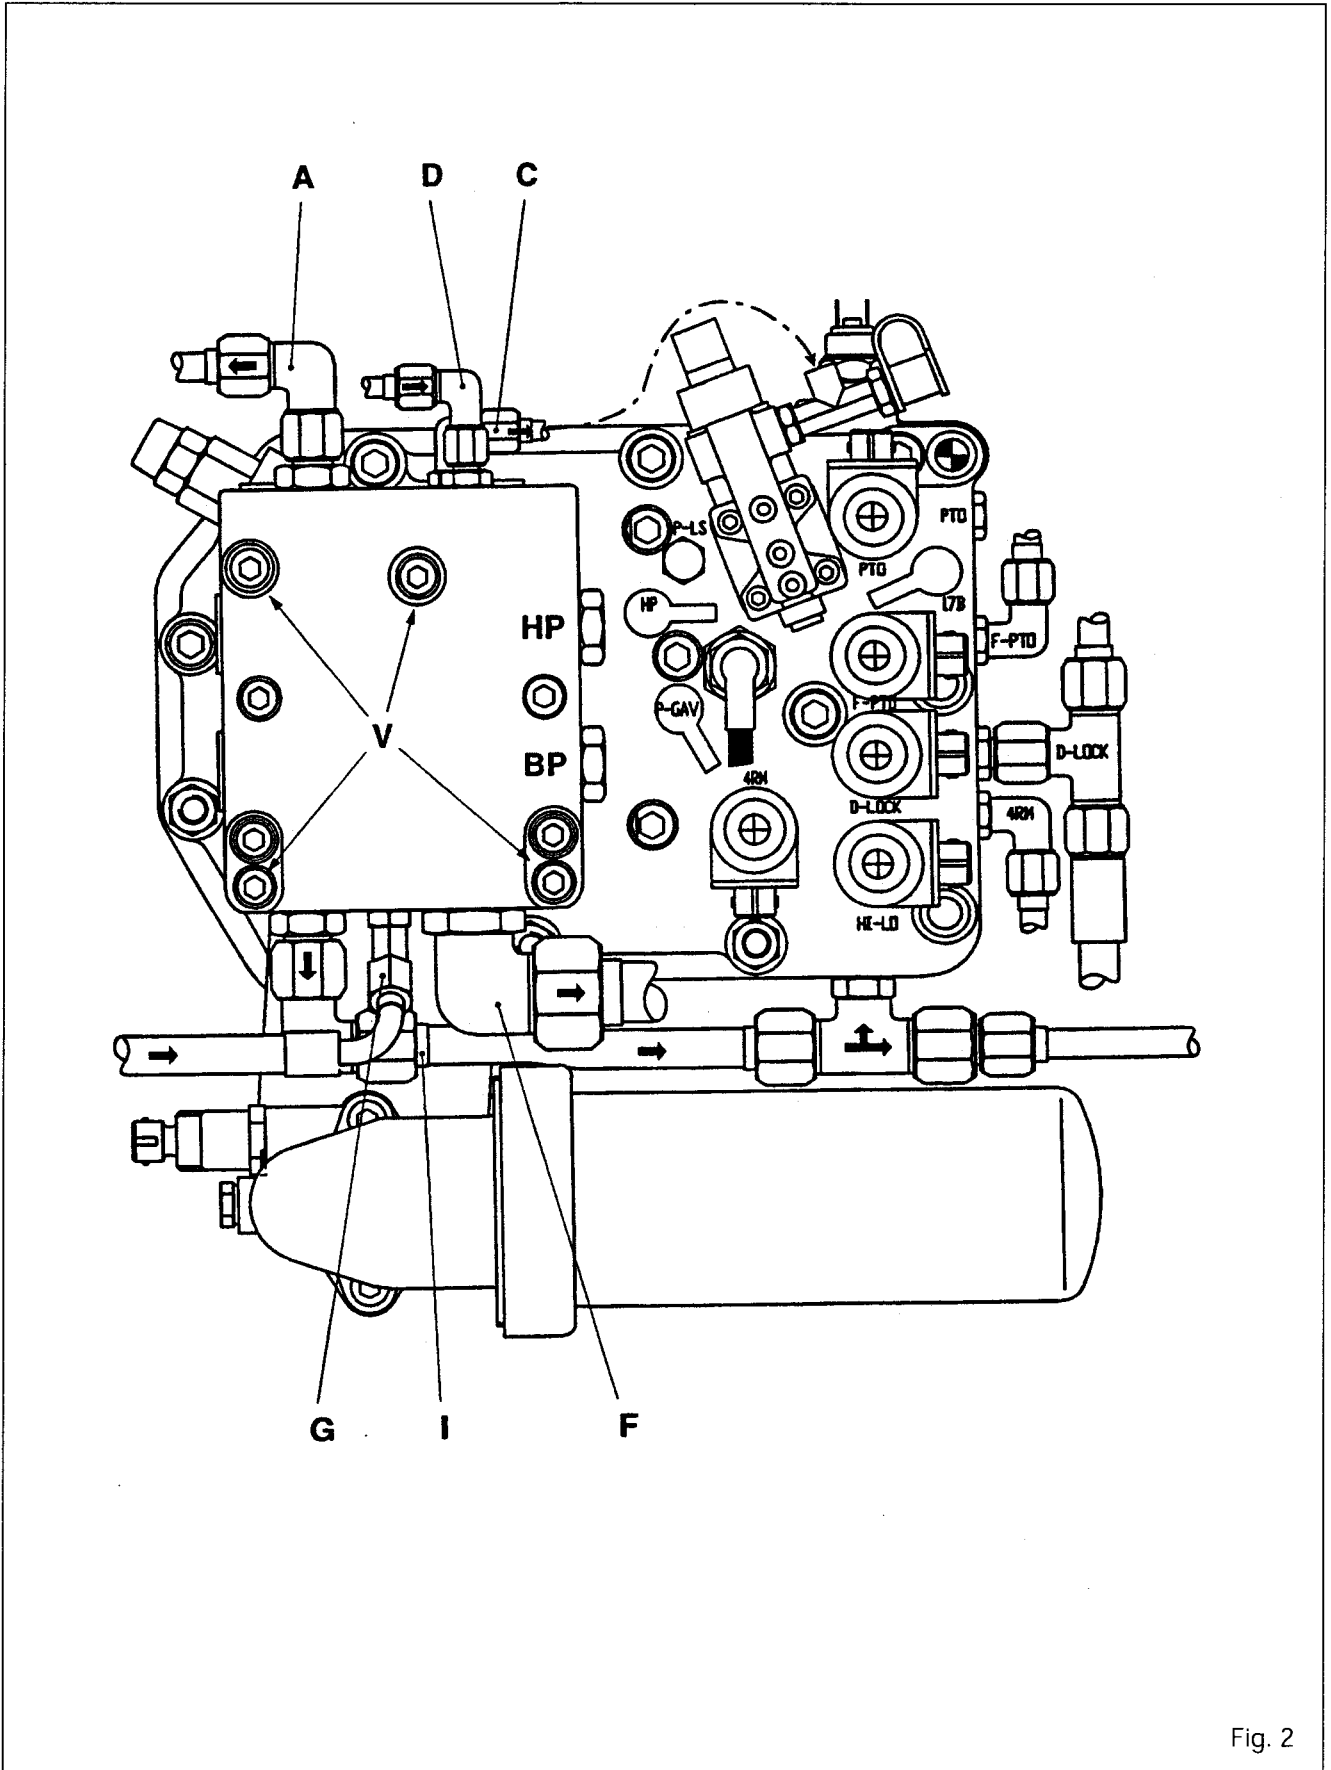

Fig. 2
- B** : HP supply from variable displacement pump (port drilled on the bearing face on the override unit and the cover (Fig. 2))